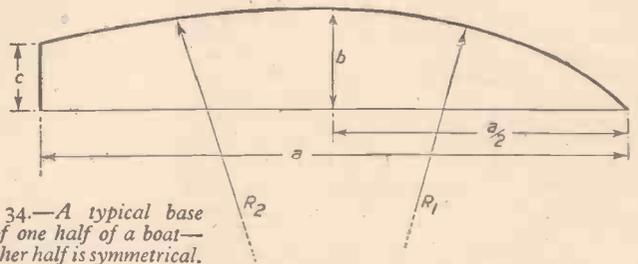
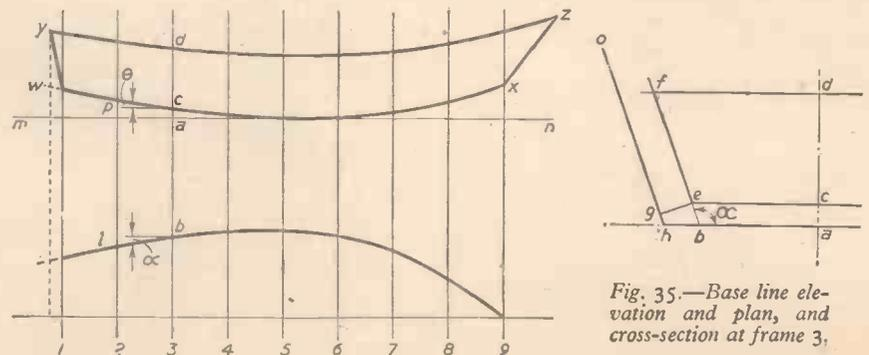
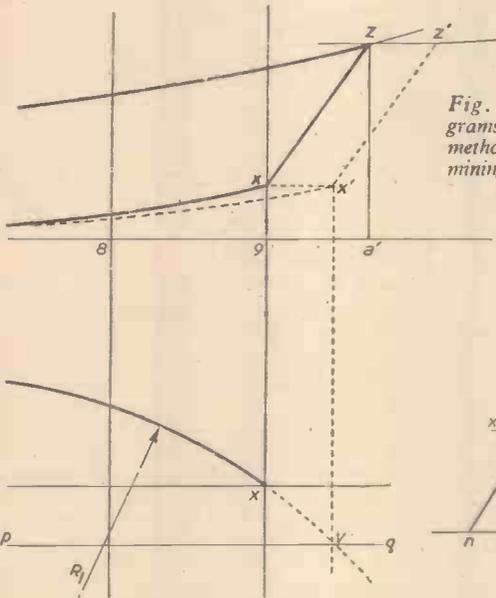
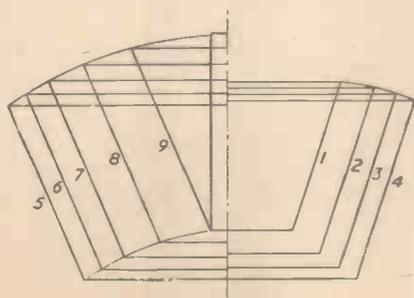

Fig. 34.—A typical base line of one half of a boat—the other half is symmetrical.
Fig. 35.—Base line elevation and plan, and cross-section at frame 3.
Fig. 37.—Diagrams showing the method of determining the angle of rake
Fig. 36.—Half-sections of frames.
The first thing to determine when laying out the boat is the base plan. This is illustrated in Fig. 33, and is, in effect, the projection of the sides and transom of the boat on to a plane parallel to the centre line at a depth equal to the maximum depth of the boat. The maximum beam of the base plan is the beam at the chine of the centre section of the boat, i.e., the maximum beam minus the amount of flare. It should be noted that it is assumed that the maximum depth and maximum beam both occur at the mid-section. The length of the base plan is the maximum length minus the amount of overhang of bow and stem. This is not easily determined in advance, but on the type of boat being considered is usually 9in. to 18in. less than the overall length. Fig. 34 shows a typical base line, the dimensions *a*, *b* and *c* have already been fixed, and it is necessary to determine the radii *R*₁ and *R*₂. These are given by the following formulae:
in Fig. 35. Now draw the base line in elevation, indicated by *m-n* in Fig. 35 and the chine line *w-x*. The height of *w* and *x* above the base line *m-n* should be such that they are just clear of the water when the boat is fully loaded. This means that the volume of water displaced by the boat below the line joining *w* and *x* parallel to the base line must be equal in weight to the total weight of the boat. The shape of the line *w-x* must be such that the first third from each end is nearly straight fairing into an easy curve into the middle third. From this it will be apparent that the correct height for *w* and *x* must be obtained by trial and error. The sheer line *y-z* is now
The cross-sections of the hull can now be drawn. As an example, consider frame No. 3, Fig. 35. Draw a horizontal line representing the base line and a vertical line representing the centre line of the boat. Mark off the beam *a-b* on the horizontal line and from *b* draw a line at an angle *a* equal to the angle of flare. From *a* mark off *a-c*, the height of the chine line above the base. From *c* draw a line *c-e* parallel to the base line. From *c* mark off the distance *c-d* equal to the depth of the boat at this frame and draw *d-f* parallel to the base line; *c-d-f-e* represent the true shape of frame No. 3, also *c-e* is the width of the bottom at frame No. 3, *d-f* is the width of the gunwale, and *e-f* is the true length of the side. This is repeated for every frame in the boat, and the resultant cross-section drawing is shown in Fig. 36. It should be noticed that the gunwale and chine points in the sections should lie on a regular curve; if they do not, check the drawing carefully to see that there are no mistakes. In Fig. 35 *w-y* represents the transom, and the rake of the transom, if any, is quite arbitrary. The width at *y* is found by extending the base curve
*R*₂ (Fig. 34) to cut the projection of *y* and laying it out as for the frames. In obtaining the line *x-z* it is assumed that the width of the stem is constant and that the angle of flare at the bow is constant. This fixes the angle of rake of the bow and if it is required to alter the angle of rake, then either the angle of flare or the width of stem must be varied. The angle of rake is obtained as follows: from point *a* in Fig. 37 draw a line with the angle of flare *a* and mark off *x* so that *a-x* is the height of *x* above the base line; draw a line through *x* parallel to the base to cut the line from *a* at *b*, then *x-b* is half the width of the stem. Through *b* draw a vertical line to cut the gunwale line at *z*. This gives the vertical height of the stem *z-a'*; mark off the distance *z-a'* above the base line in elevation and draw a horizontal line. Where this line cuts the sheer line is the point *z*, which can now be joined to *x* to give the rake of the stem.
In practice, this would be done on Fig. 35, in which the gunwale curve is already drawn and has only been done separately for purposes of illustration. It may be found that the width *x-b* is greater than is required; in this case mark off *x-m* the required half width of the stem. Through *m* draw a line parallel to *a-b* to cut the base line at *n*. In the plan of the base line (Fig. 37) draw a line *p-q* parallel to the centre line and a distance *a-n* from it. Extend the radius *R*₁ to cut this line at *v* and project to the elevation and mark the point *x'* representing the new base of the stem. Obtain *z'* as previously described for *z*. It will be noticed that this slightly increases the length
of the boat and alters the curve of the chine. In consequence, the width of the stem should be fixed before the other frames are laid out. Certain other information can now be obtained from the drawing in Fig. 35.
So far it has been assumed that the boat is flat bottomed. If it has a Vee bottom all that is necessary is to impose the Vee on to the sections drawn as for a flat-bottomed boat. In Fig. 39 the section of frame 3 from Fig. 35 is reproduced. If the boat has a Vee bottom, a line is drawn from e at the correct angle of Vee α to cut the vertical centre-line at h . Then h represents the keel line of the boat at this frame. This is
The layout drawing as in Fig. 35 should be drawn out $\frac{1}{4}$ or $\frac{1}{8}$ full size. At this